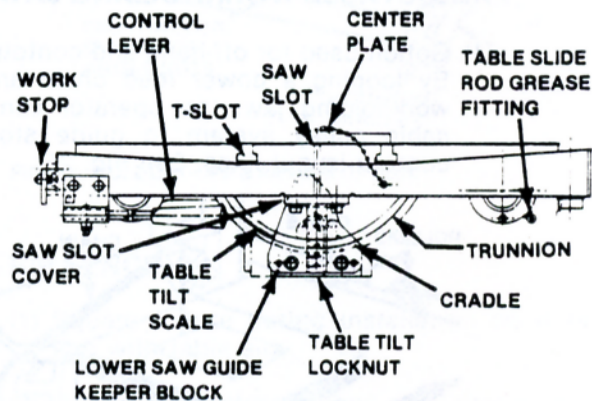

FIG. 30. AIR-POWERED WORKTABLE - FRONT VIEW.
- (2) Its air-amplified feed system is lever-controlled and allows 12 inches (305 mm) of table travel. Light hand pressure against the lever moves table "forward" or "reverse".
- (3) The table has a pin work rest which acts as a workstop when inserted into table center plate. A squaring bar fits into a table slot to hold during production sawing. Table locks permit loading and positioning of heavy stock. Special table center plates for filing or polishing operations are provided. See Fig. 30.